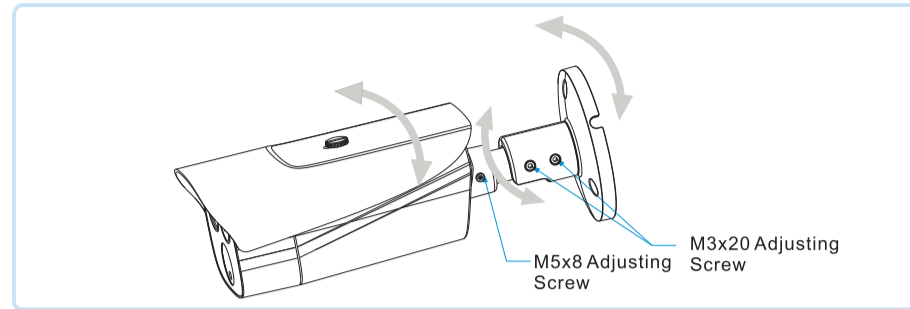

Figure 2-2
- Use inner hex screwdriver to loosen the adjusting screws shown in Figure 2-2.